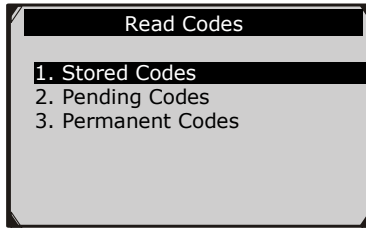

Figure 6.4
- 2) Use the **UP/DOWN** scroll button to select **Stored Codes**, **Pending Codes** or **Permanent Codes** from the **Read Codes** menu and press the **OK** button. (Figure 6.4)